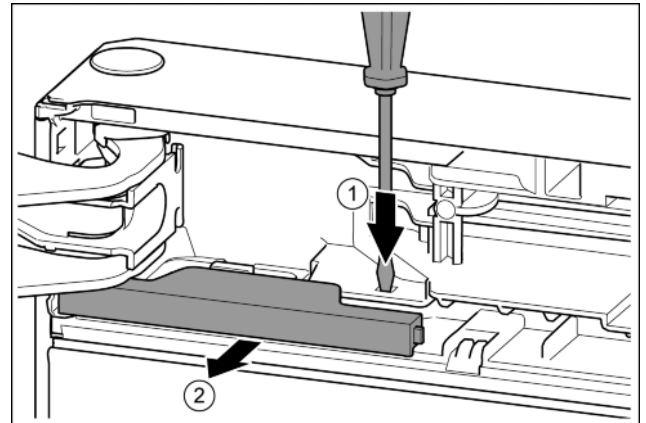

Fig. 9
- Press the tab with the slotted screwdriver. Fig. 9 (1)
- Pull cover out of the catch mechanism. Fig. 9 (2)